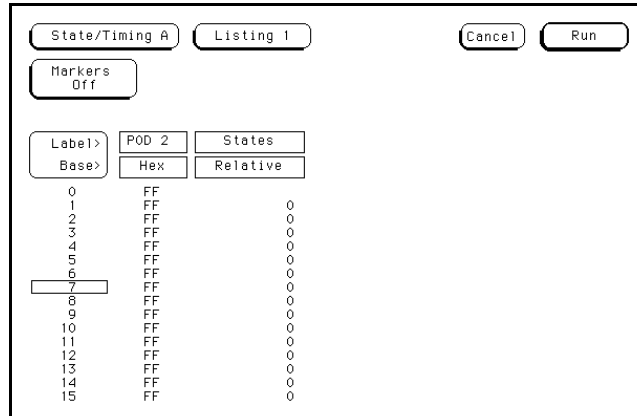

Figure 3-21. Listing Screen
6. Touch **Run**. The State Listing screen will be displayed and should list all F's as shown in figure 3-21.